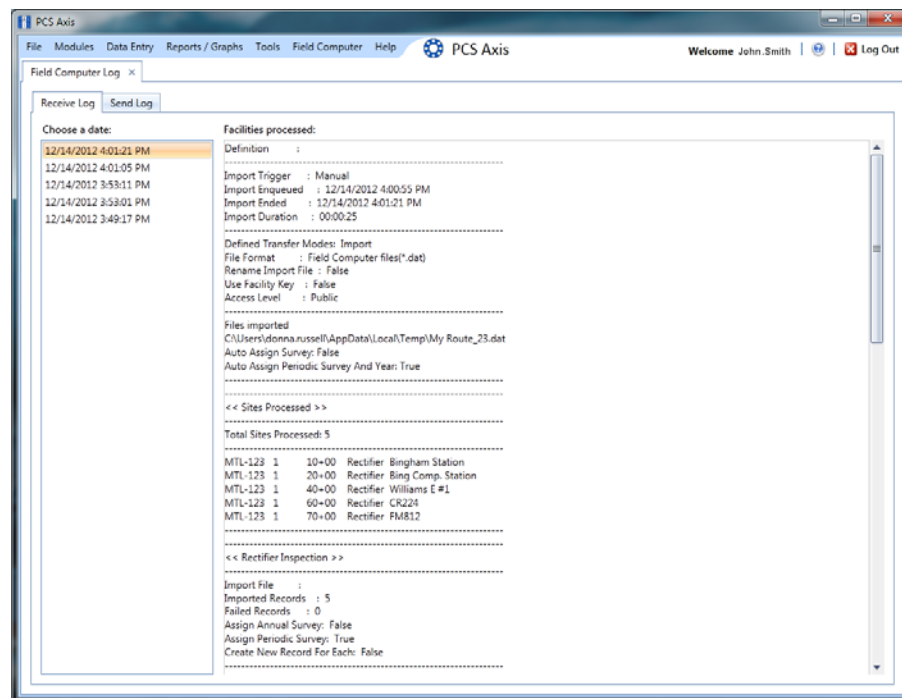

Figure 12-39. Field Computer Log / Receive Log
- 1 Click **Field Computer** > **Log** to open the *Field Computer Log* window (Figure 12-39).